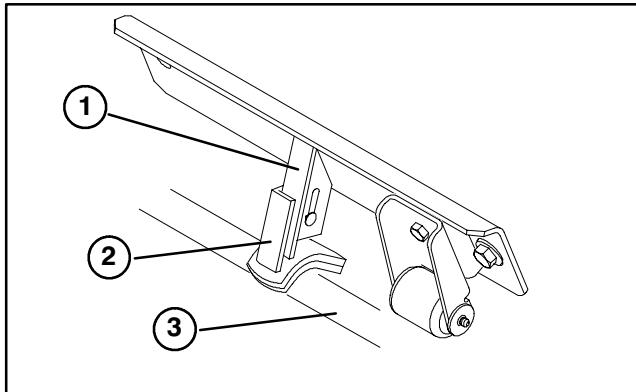

Figure 11
2. On front center cutting unit, loosen the carriage bolts and nut securing the stabilizer saddle to stabilizer (Fig. 11).